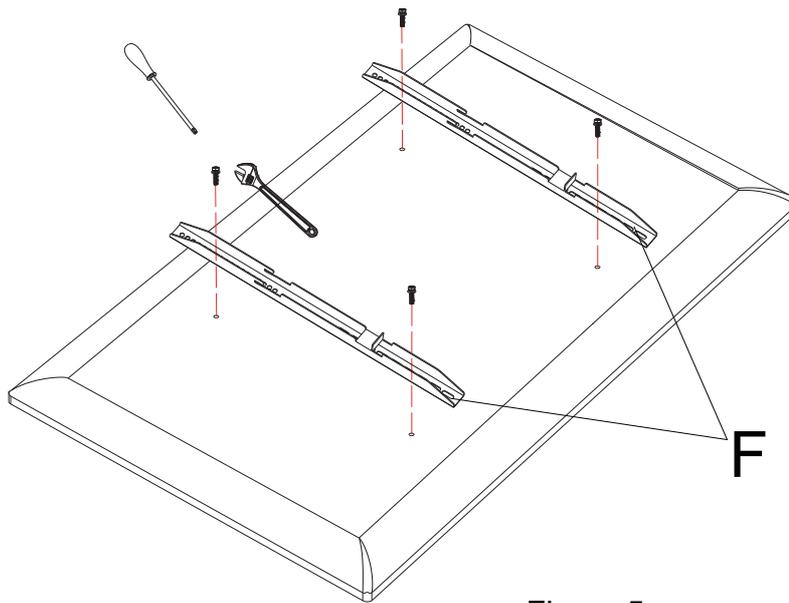

Figure 5
Step 5 : According to the actual requirements of the whole machine, lock the wall hanging strip on the whole machine (Figure 5).